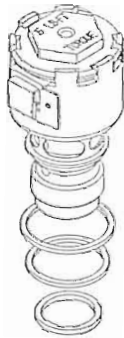

Fig 9
- 2) Remove and discard the three rubber seal rings from the solenoid valve. (See Fig 9)